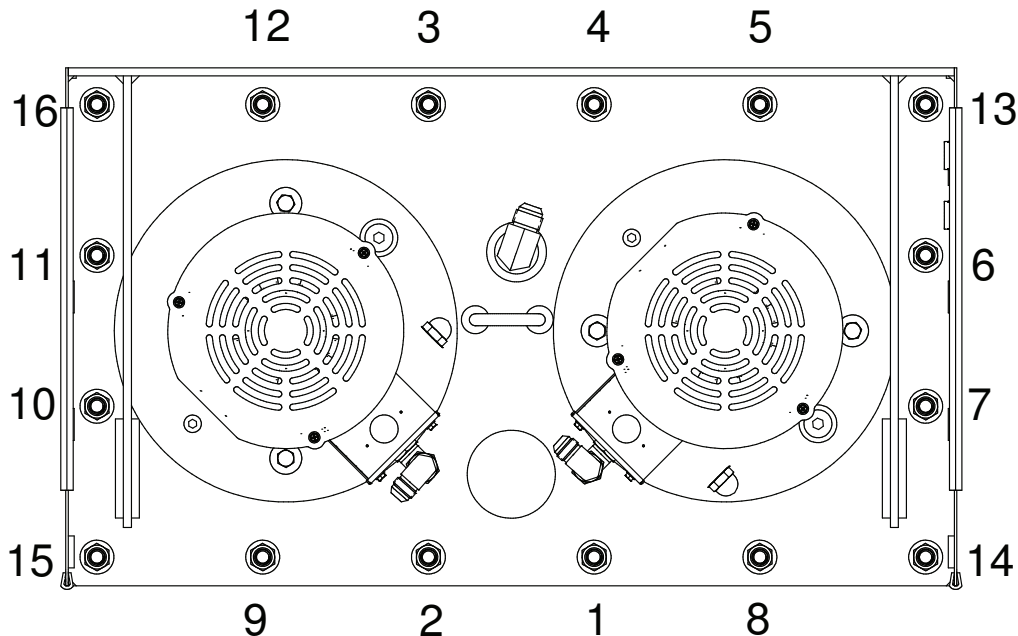

Figure 25
8. Following the sequence in Figure 25, torque all bolts in two stages: